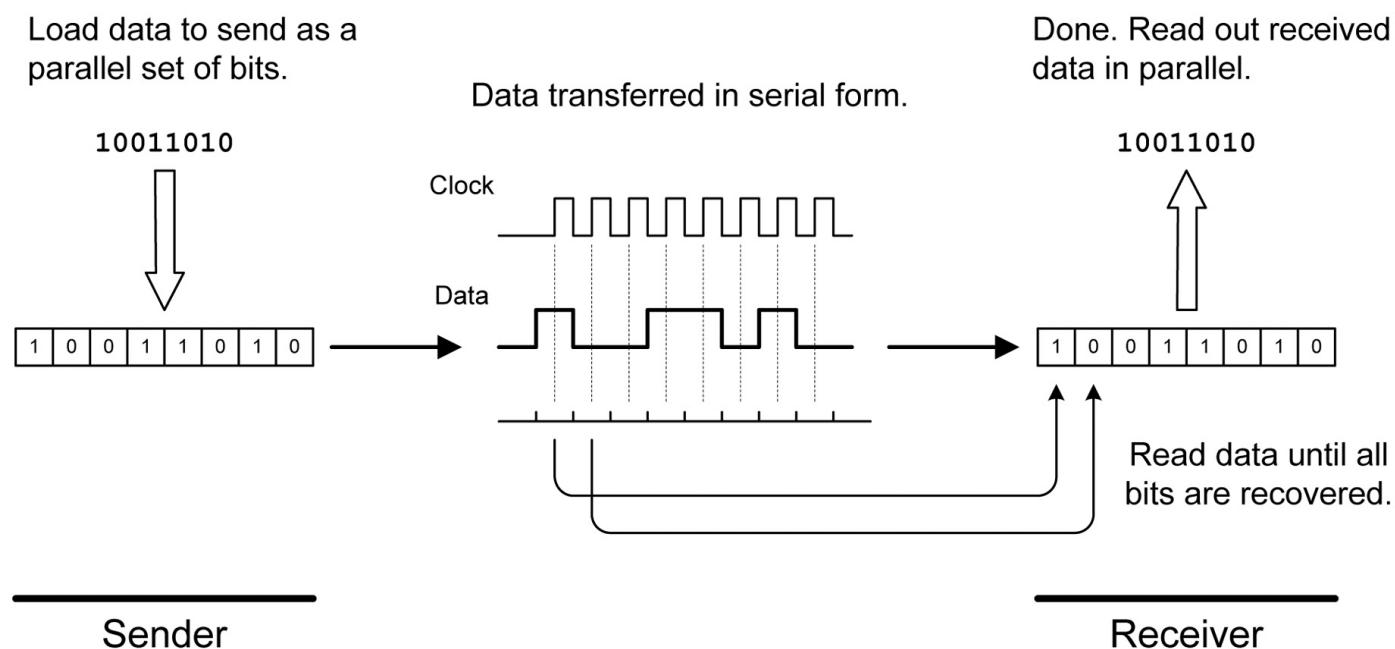
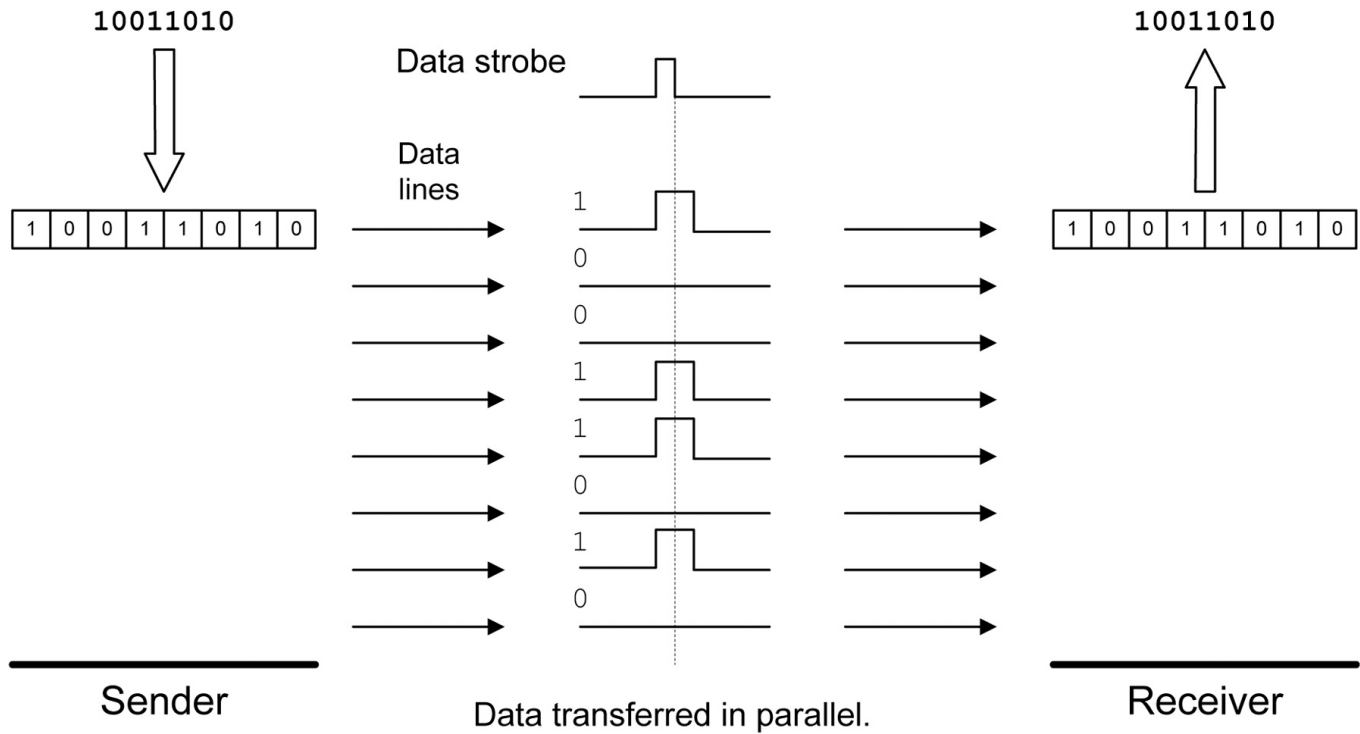

Figure 14-1. Serial data exchange
Figure 14-2. Parallel data exchange
Digital data communication interfaces can be divided into two broad categories: serial and parallel. Serial data is where a digital value — a byte (8 bits), for example — is sent over a single channel (e.g., a wire) one bit at a time. At the receiving end, each bit is read and then reassembled once again as a byte. **Figure 14-1** shows the process of serializing and reconstructing digital data.
Figure 14-1 shows what is known as a *synchronous serial interface*, meaning that the sending and receiving of data bits is coordinated by a clock signal sent from the sender to the receiver. The vertical dashed lines indicate when the receiver will look at the incoming signal to detect if it is either high (1) or low (0). This can occur at the start (rising edge) or end (falling edge) of each clock pulse. In this case, it's shown on the rising edge of the clock pulses. In the next section, we'll look at an asynchronous way to do this, which doesn't require a clock.
With a parallel data interface, an entire byte (or word, or even something larger) is transferred all at once from sender to receiver. As you might surmise, a parallel interface can be much faster than a serial type, since the parallel-to-serial (and back again) steps are eliminated. The downside is that a parallel interface needs a sufficient number of wires to carry all the individual bits. **Figure 14-2** shows an example of a parallel interface.
For a parallel data transfer, only one control pulse (labeled “Data Strobe” in Figure 14-2) is absolutely necessary. When the receiver detects this pulse it will read in (or *latch*, in digital terminology) the data on the parallel lines into a data register. As with Figure 14-1, the dashed vertical represents the time when the data is actually sensed and loaded into the receiver’s register.
The terms *synchronous* and *asynchronous* refer to the way in which a data transfer is handled between sender and receiver. A synchronous interface relies on the use of a clock signal or transfer pulse for coordinating the data transfer timing, whereas an asynchronous interface does not. Figures 14-1 and 14-2 are examples of synchronous interfaces. Almost all parallel interfaces are synchronous, whereas serial interfaces aren't always synchronous but can instead be asynchronous.